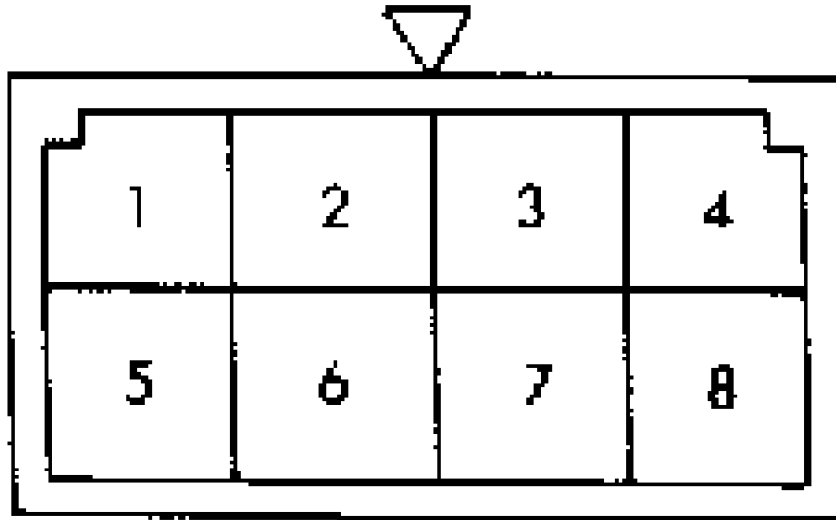

Fig. 2: Identifying Front Wiper Relay Terminals (Montero)
Remove relay. Relay is located behind driver's kick panel. Make sure continuity is present between terminals No. 2 and 5. See Fig. 2.
1) Connect battery voltage to terminal No. 1 and ground terminal No. 6. See Fig. 2. Connect a jumper wire with test light between battery positive and terminal No. 2.